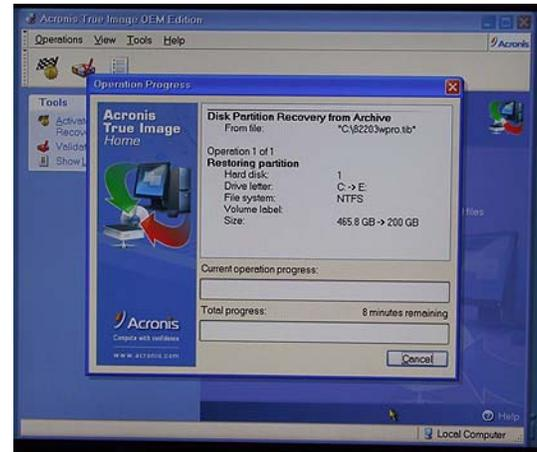

Figure 2-63
32) Click the **Proceed** button to initiate the restoration, at which time you will be presented with the **Operation Progress** dialog (Figure 2-63), which will reflect the status of the restoration. (In the case of a multi-DVD image, the system will inform you as and when to insert subsequent DVDs).